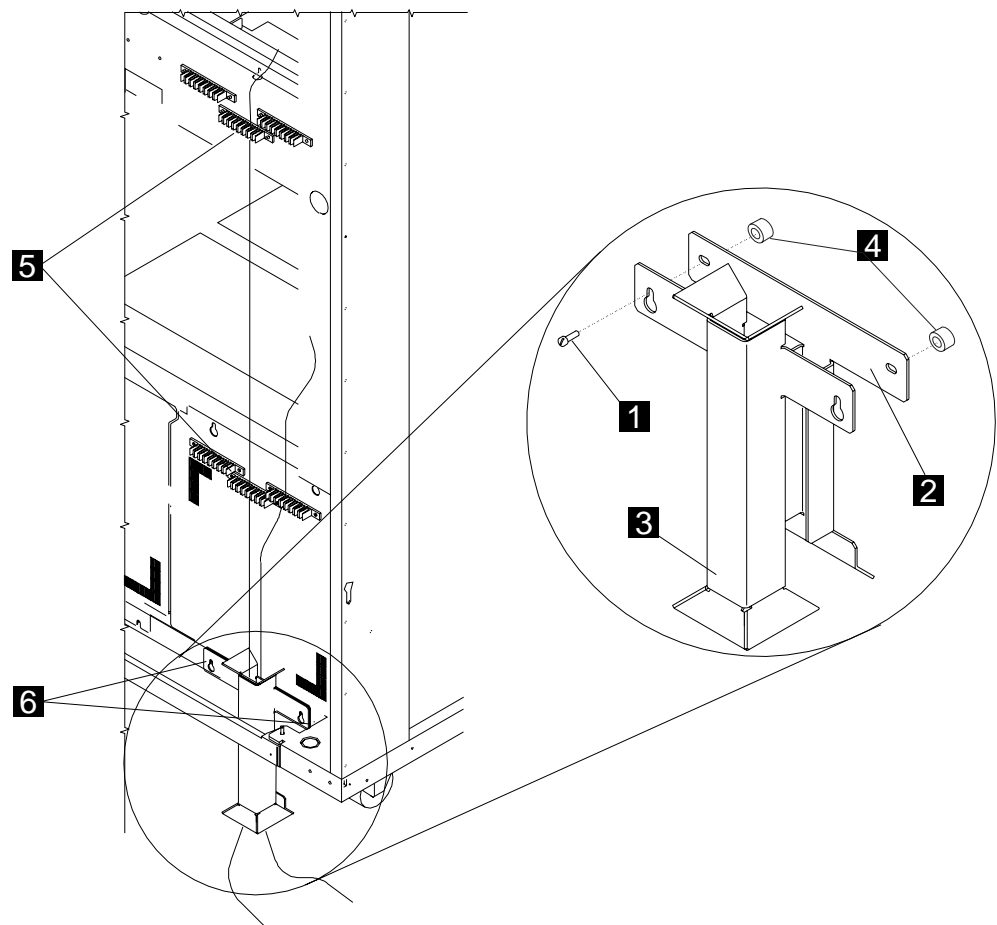

Figure 8-4. Routing the Optical Fibers
- If you have a bracket **2** with PN 58G5503 and the guide **3** with PN 58G5504 (see Figure 8-4) install as follows:
- Step b. \_\_\_ **Install** the two spacers **4** (PN 58G5711) and the bracket **2** (PN 58G5503) using two screws **1** (PN 1621214) See Figure 8-4